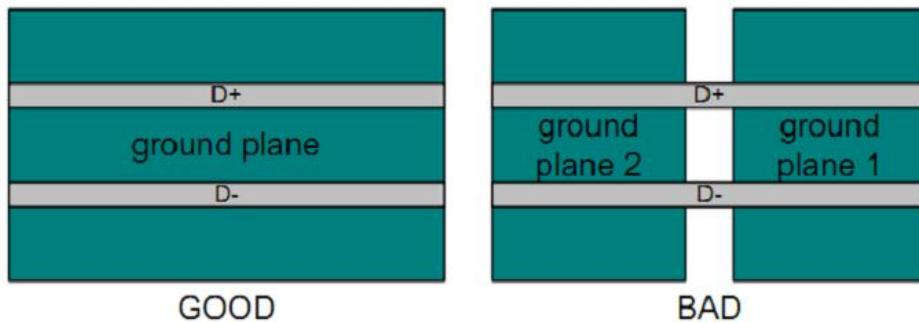

Figure 4-22 USB Signal Trace Reference Plane
- In order to suppress EMI, the USB signal traces are recommended to be placed on inner layers and ensure the reference plane is continuous and complete; otherwise, it will cause discontinuities in the trace impedance and increase the external noise on them. Shown as Figure 4-22.